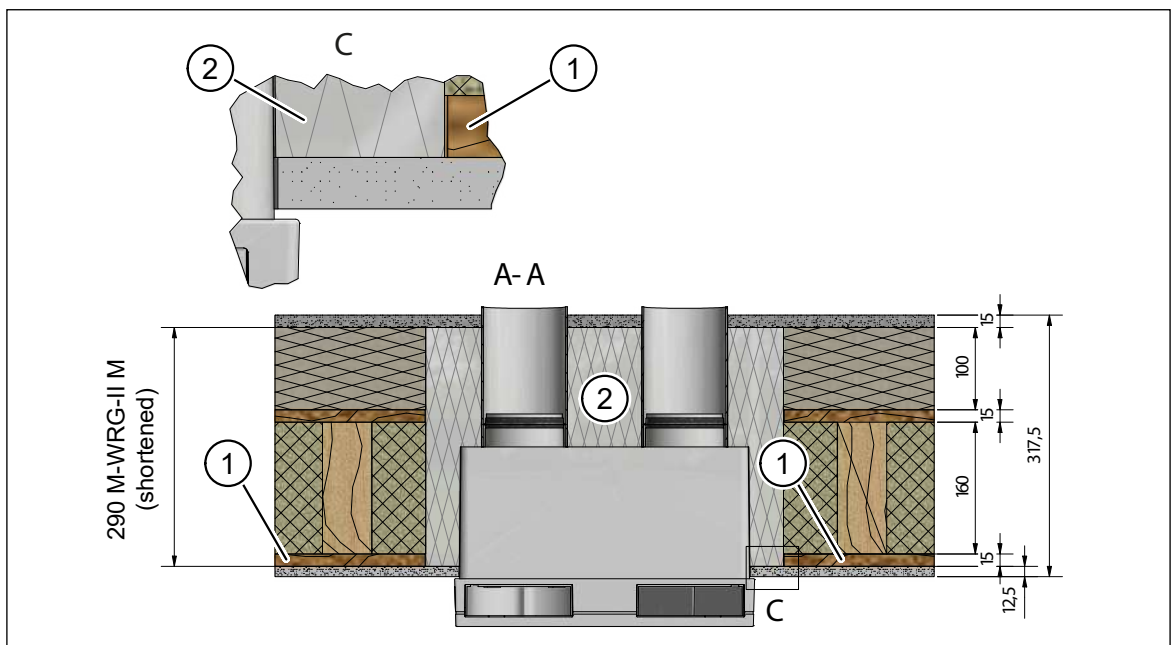

Fig. 25: Inner OSB board as the vapour barrier and airtight layer
The inner OSB board (item 1 in Fig. 25) is the vapour barrier and airtight layer. The OSB board must be connected to the wall box (item 2 in Fig. 25) using a suitable and approved adhesive tape, e.g. Rissan® from SIGA.